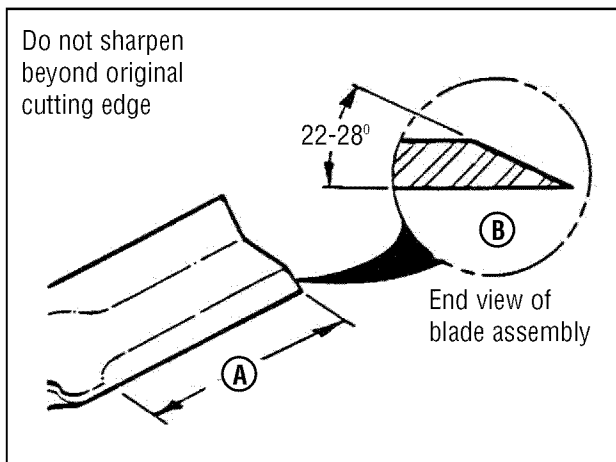

Figure 23: Sharpening the mower blade
- Sharpen the blade on a grinding wheel at an angle of 22 to 28 degrees (**B, Figure 23**). DO NOT sharpen the blade beyond the original cutting edge (**A**).